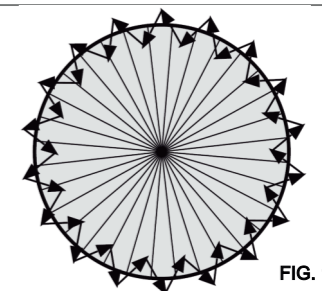

FIG. 12
4.4.4 Walk from outside across to the detection pattern until LED turns on for approx. 2sec then off, the next trigger should be 2sec interval (See FIG.12).